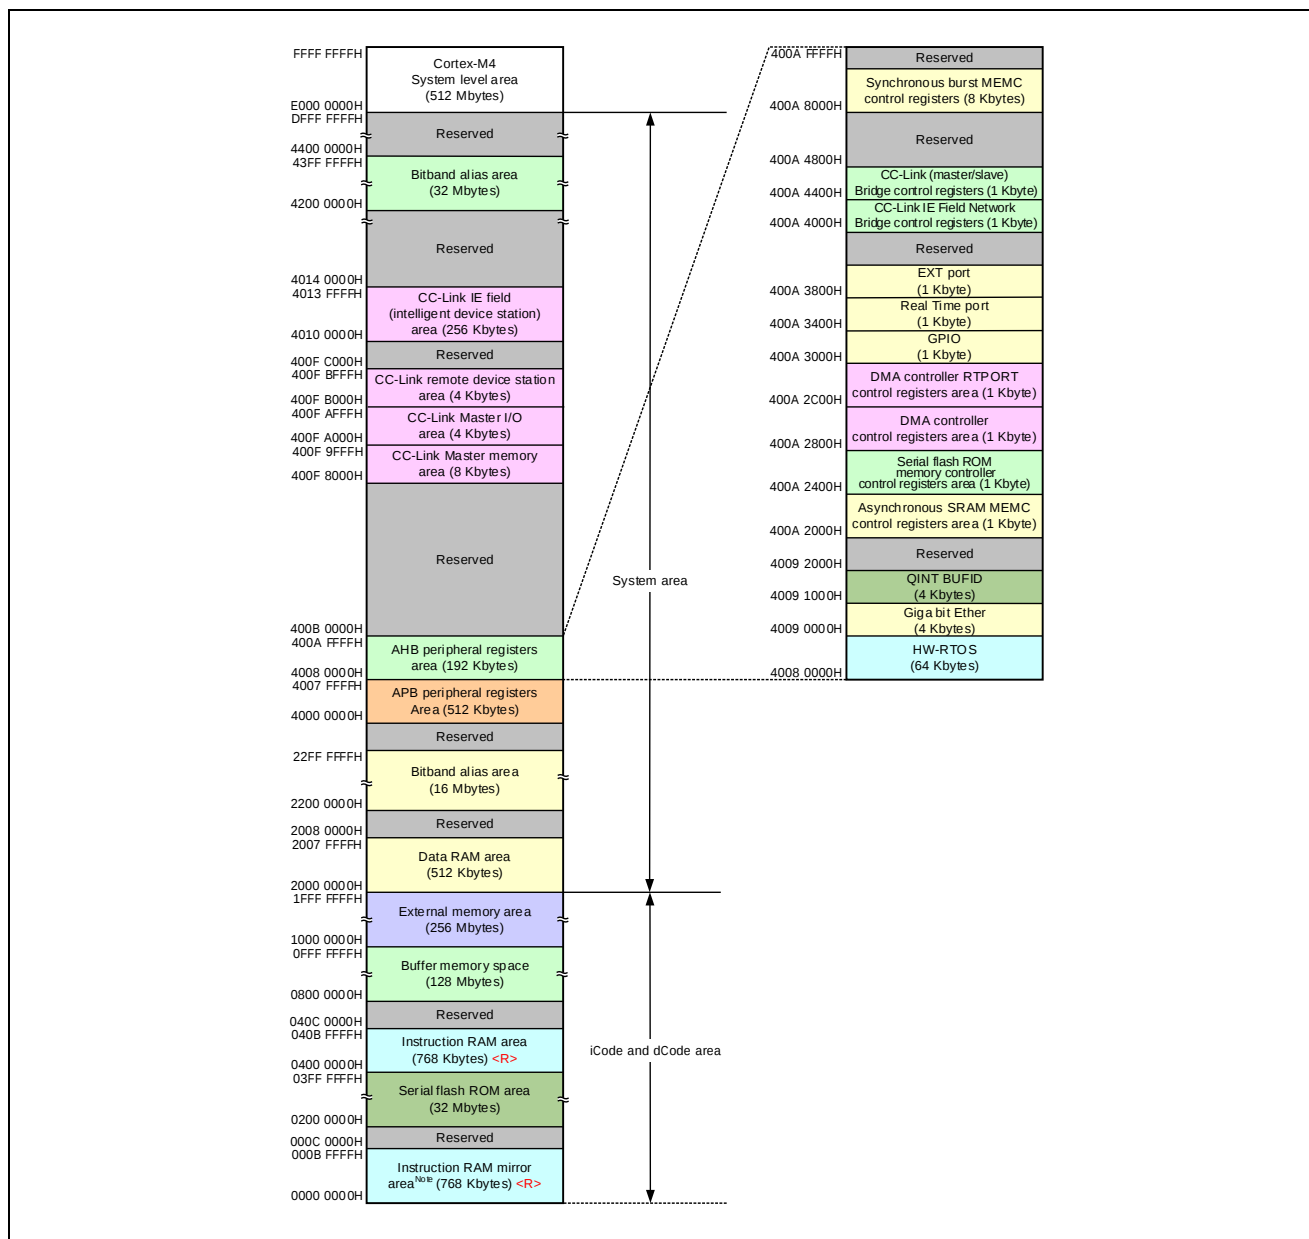

Figure 3.1 Entire Memory Map <R>
- Notes 1.** The upper 52 Kbytes of the AHB peripheral registers area covers the range from the GPIO area to the synchronous burst memory controller control registers. For details, see Figure 3.1, Entire Memory Map.